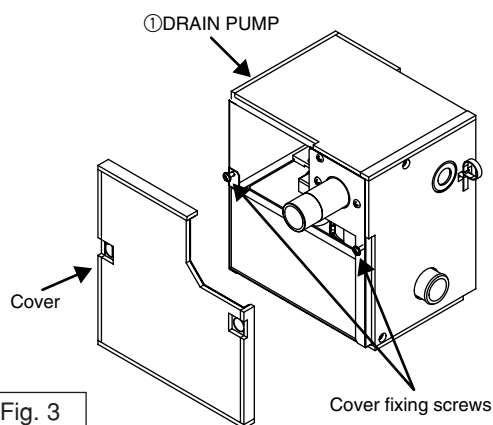

Fig. 3
- (3) Loosen the drain-pump-cover fixing screws, and remove the cover. (Fig. 3)